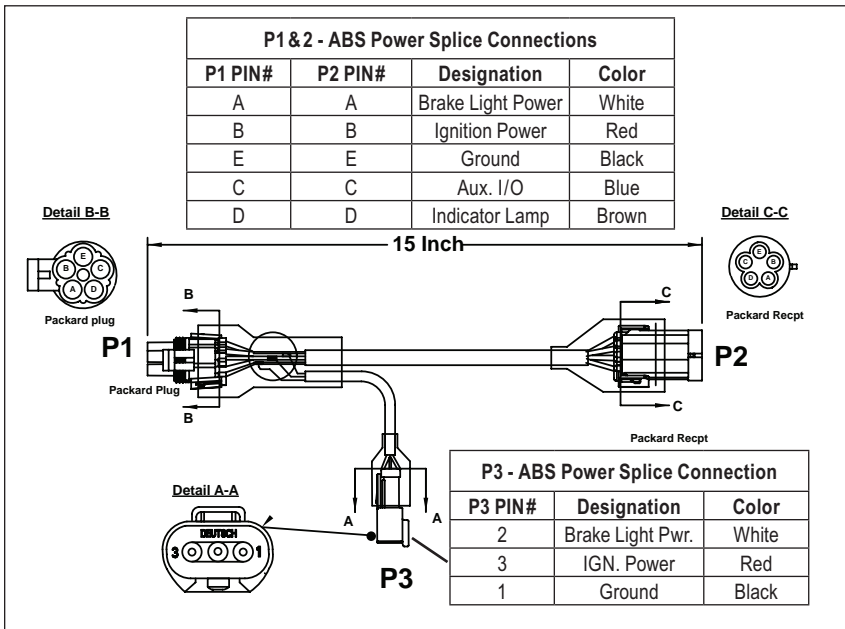
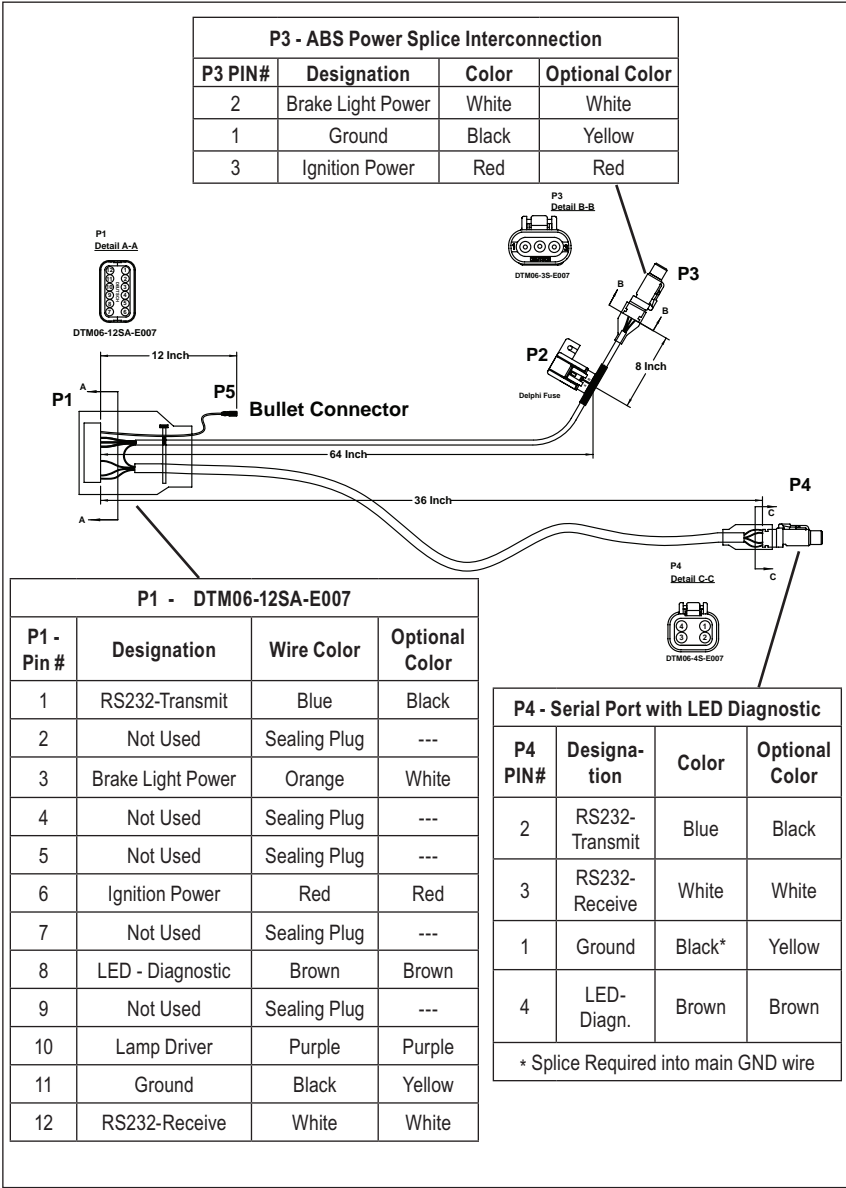

Figure 16 - SmarTire Trailer-Link™ TPMS ABS Power Splice (Part No: K075867)
Figure 17 - 6ft SmarTire® Trailer-Link™ TPMS Harness Part No: K075868
Step 6. After installing the ABS Power Splice harness, connect the 3-pin power connector, (P3 in Figure 16) to the SmarTire Trailer-Link™ TPMS Wiring Harness, (P3 in Figure 17). Then route the harness along the underside of the trailer, taking care to avoid any slider mounts and suspension components. Secure the harness every foot with zip ties. Connect the other end of the harness, P1 in Figure 17 to the SmarTire Trailer-Link ECU.
Step 7. Route the 4-pin diagnostic LED line to the side of the trailer or slider and secure the line every foot with zip ties. Ensure the Bendix diagnostics LED Cap part number K075866 is placed over the end of the diagnostic connector, P4 in Figure 17 when not used with the Maintenance Hand tool. Connect the trailer to power and watch for the LED to light up briefly to confirm the SmarTire Trailer-Link ECU is functional. Refer to the blink code table in *Section C* for more information.
If the optional trailer warning lamp is not installed, please use the supplied dielectric grease and fill the trailer lamp output connector (P5 in Figure 17) with grease to protect it from corrosion. For instructions on how to install the optional trailer warning lamp, continue to step 9.
Optional Step 9. Using the lamp output connector (P5 in Figure 17) a trailer lamp may also be installed at the nose of the trailer to provide trailer TPMS alerts regardless if the tractor is equipped with a SmarTire TPMS unit. Extend a power line from the connector to the lamp (standard 12-24V lamp with max one (1) Amp draw can be used, not provided by Bendix) and ground the lamp to the trailer chassis at its mounting point. Place the provided Trailer Lamp alert sticker underneath the trailer lamp. See *Section C* for blink codes.